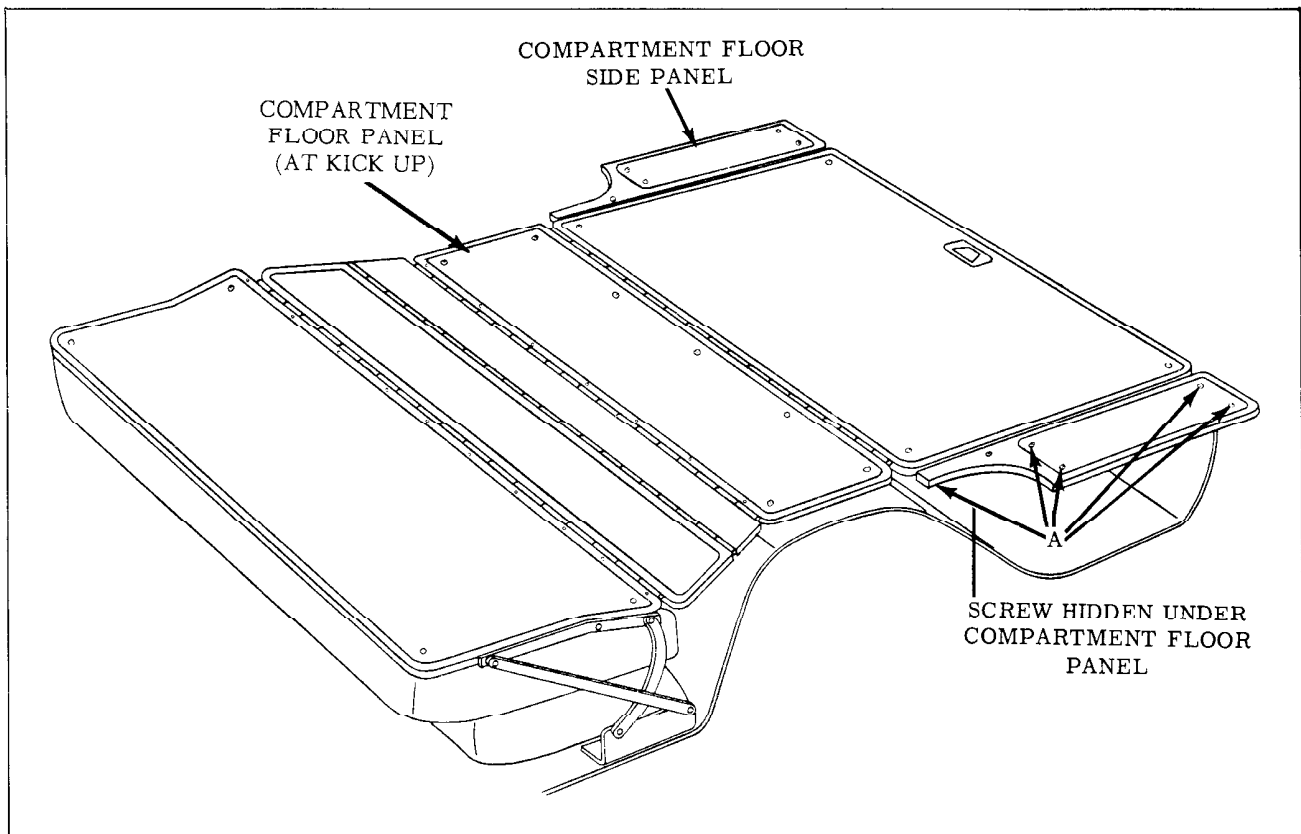

Fig. 15-70 Compartment Floor Side Panel Assembly
2. Remove screws securing compartment floor side panel to side panel support as shown at "A", Fig. 15-70, and remove panel assembly from body.